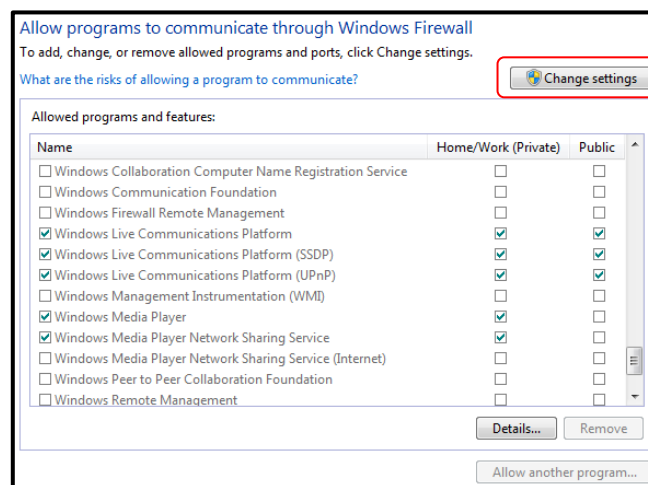

Figure 84 - Enabling firewall settings changes
3. Click the "Change settings" button. Refer to Figure 84.